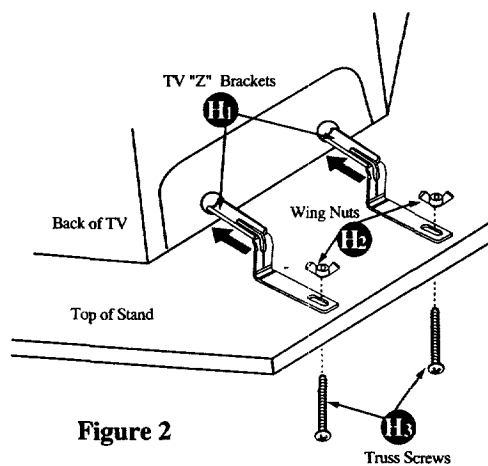

Figure 2
1. Attach the "Z" bracket as shown in Figure 2.